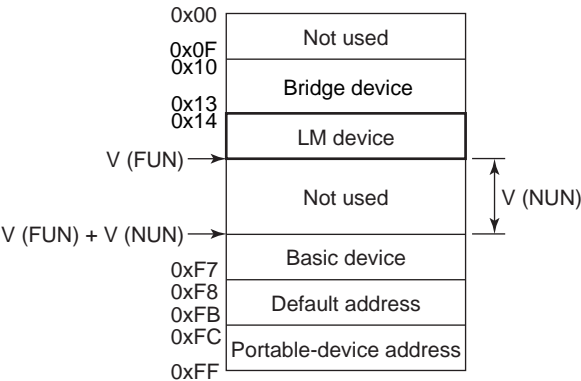

Figure A1-3. Node Address Ranges
- (3) In the LAS settings of the EXA202, set the values of V(FUN) and V(NUN) so that they include the node addresses of all nodes within the same segment. (See also Figure A1-3.)